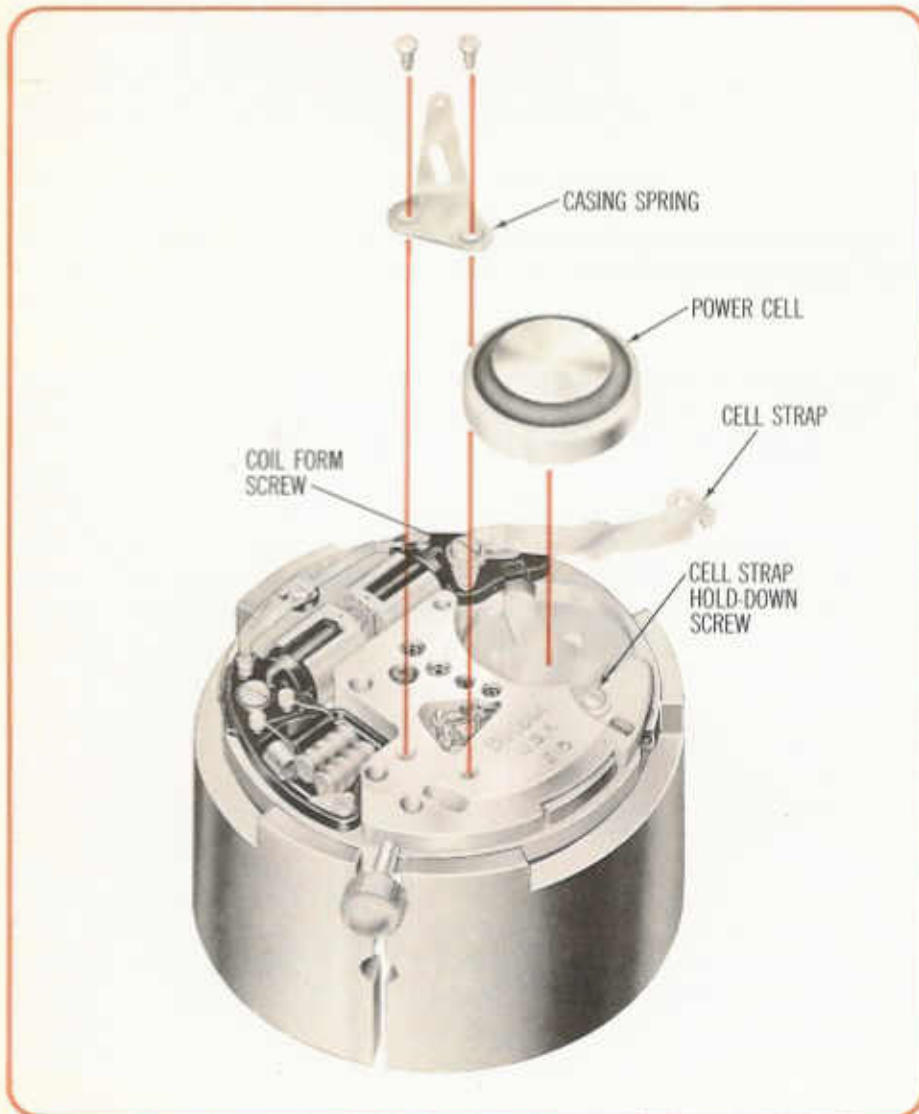

Fig. 14
1. Check that stem is in (running position). Remove casing spring (2 screws) and power cell (Fig. 14).